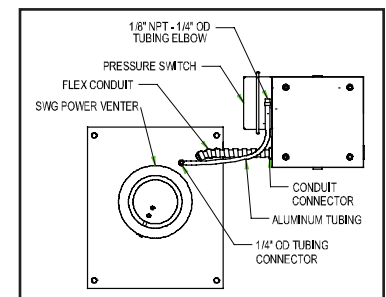

Figure 3
2. Fasten the flexible conduit from the SWG Venter into the conduit connector. Mount the CK-63 junction box or installer supplied junction box onto the wall or floor joist without straining the flexible conduit. Fasten the CK-63 junction box through the four dimpled locations on the base of the box. (See Figure 3)
1. Attach the 1/4" tubing connector to the pressure tube on the SWG Venter. (See Figure 3)